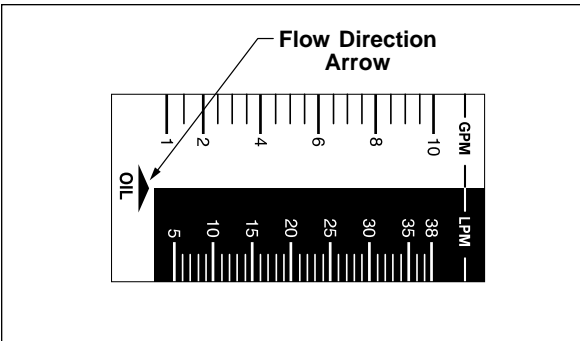

Figure 3. Flow Direction Arrow
Do - Ensure the fluid is traveling in the direction of the flow arrow (**Figure 3** on page 6).
1. Mount the meter so fluid is traveling in the direction of the flow arrow. See **Figure 3**.
1. Mount the VA High Pressure Test Kit Flow Meter so fluid is traveling in the direction of the flow arrow. See **Figure 3** on page 6.